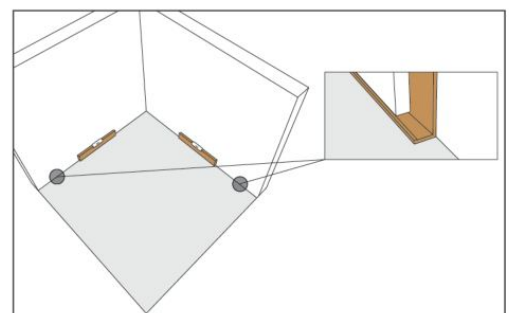

Fig.8
- Ensure the starter strip is installed level before fitting the first panel. Use a spirit level or laser level to check alignment. (Fig.8)